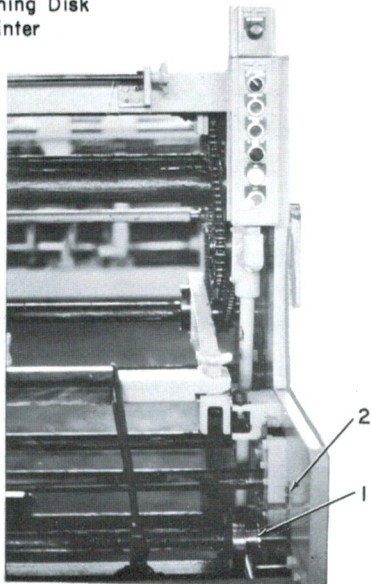

FIGURE 8-10. DELIVERY END TIMING MARK
- Step 1) Jog the machine using the delivery end JOG button to align the timing disc zero mark with the pointer on the inside of the delivery end frame operating side (Figure 8-10).